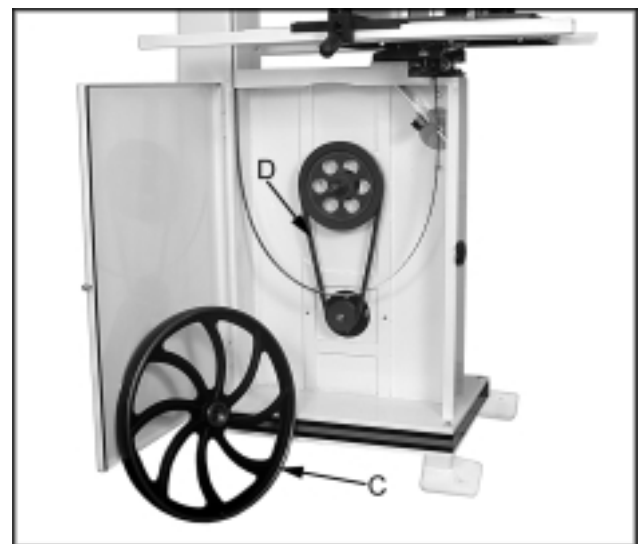

Fig. 21
5. Remove the wheel (C, Fig. 21). If the lower wheel does not come off easily you may need to use a pulley puller to remove the lower wheel.
6. Remove the old belt (D, Fig. 21) and replace the belt.